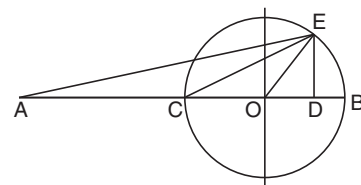

FIGURE 8.19. Mohr's circle.
81. Two unequal like principal stresses are acting at a point across two perpendicular planes. The resultant stress acting on a plane inclined at an angle θ with the major principal plane is to be determined by Mohr's circle of stress as shown in Fig. 8.19. Two principal stresses in Fig. 8.19 acting on the point are given by
82. In Fig. 8.19, the radius of the Mohr's circle is
83. In Fig. 8.19, the normal stress is given by
84. In Fig. 8.19, the tangential stress is given by
85. In Fig. 8.19, the resultant stress is given by
86. In Fig. 8.19, obliquity is represented by the
87. In Fig. 8.19, the angle of oblique plane is represented by
88. In Fig. 8.19, the maximum tangential stress is equal to